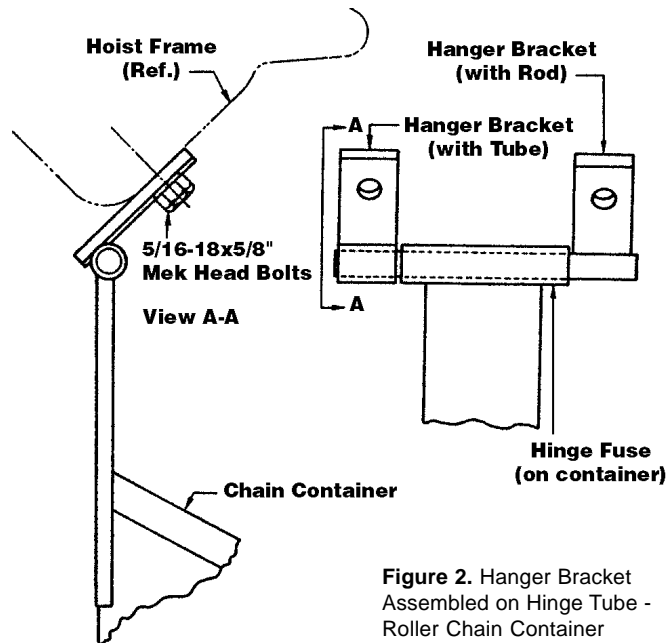

Figure 2. Hanger Bracket Assembled on Hinge Tube - Roller Chain Container
1. On roller chain containers, assemble hanger bracket to hinge tube at top of container. See Figure 2. NOTE: Hanger bracket is permanently attached on coil chain containers.